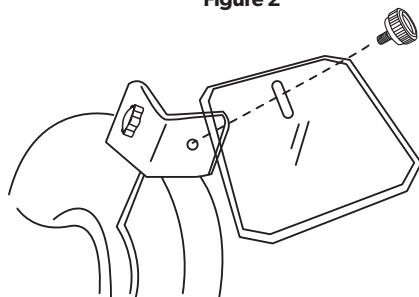

Figure 3
- b. Push eye shield bracket onto mounting bracket until it locks into place as shown in Figure 3.